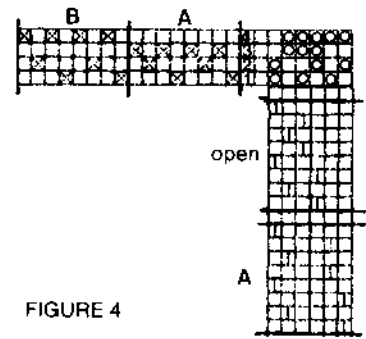

FIGURE 4
**Threading and treadling:** See Figs. 4 & 5.